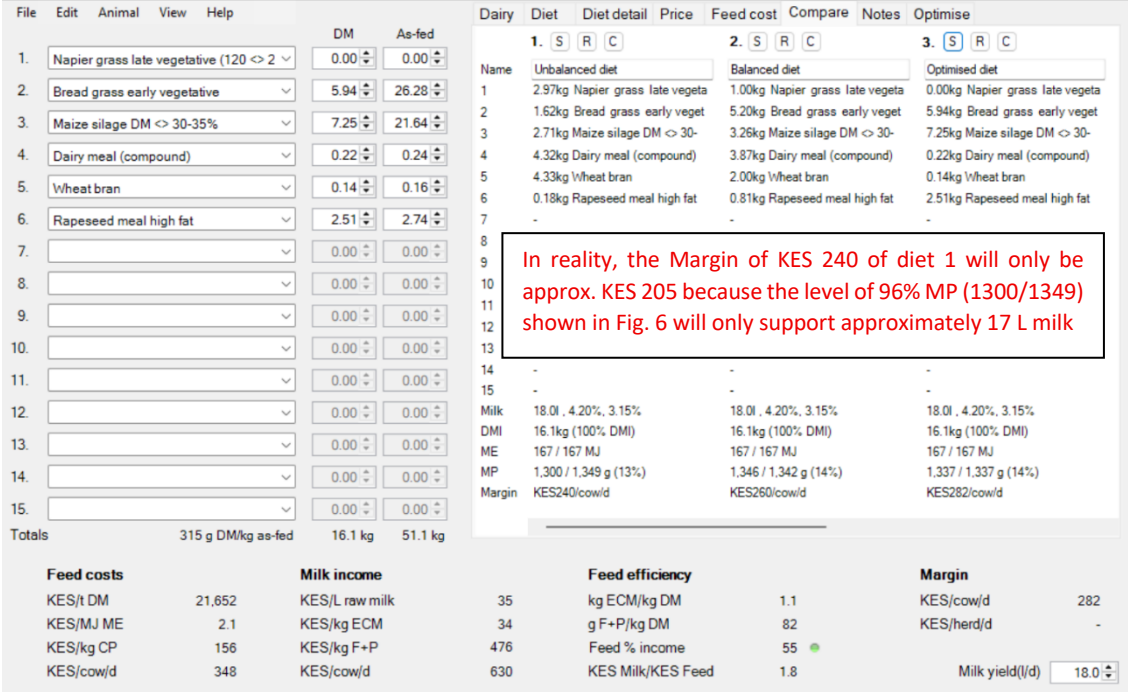

Figure 12. Compare tab; diet 1 is unbalanced, diet 2 balanced manually and diet 3 using Optimise
The Compare tab is a very useful feature. Here, 6 diets can be stored along with important parameters, including the DM quantities of diet ingredients, percentage of optimal DMI (in the NDF method *and* NRC method), supply and demand of ME and MP and MAFC. This is a handy page to discuss with the farmer and to choose the best diet from (Figure 12). With the S(tore) button, the diet is saved in slot 1 to 6. They can be subsequently (R)estored or (C)leared. Optionally, a tab 'Split herd' is shown to the right of the Compare tab. This facility is rarely used in the tropics, and we recommend to un-tick it under <File>, <Preferences>, <General> so it is no longer visible.
In the Compare section of Figure 12, diet 1 is the original diet shown in Figure 6 (Compact mode) that the farmer told us was being fed and achieving a milk production of 18 L. However, if the diet fed is indeed the quantity and quality entered, then only 96% (1300/1349) of the MP demand was supplied, and milk yield is likely to drop to approximately 17.0 L. Diet 2 is well balanced and supports a milk yield of 18 L. Balancing was done as well as possible in Standard mode (Figure 8) and could also have been done in Compact mode. Diet 3 shows that MAFC can be increased by KES 22 (KES 282 minus KES 260) by using the Optimiser. With an identical ME and MP supply as Diet 2, Diet 3 was KES 22 per day cheaper, showing the strength of the Optimise facility. This does, of course, not hold if the diet ingredients are not weighed well or of a composition different from the ones in the feed library used.